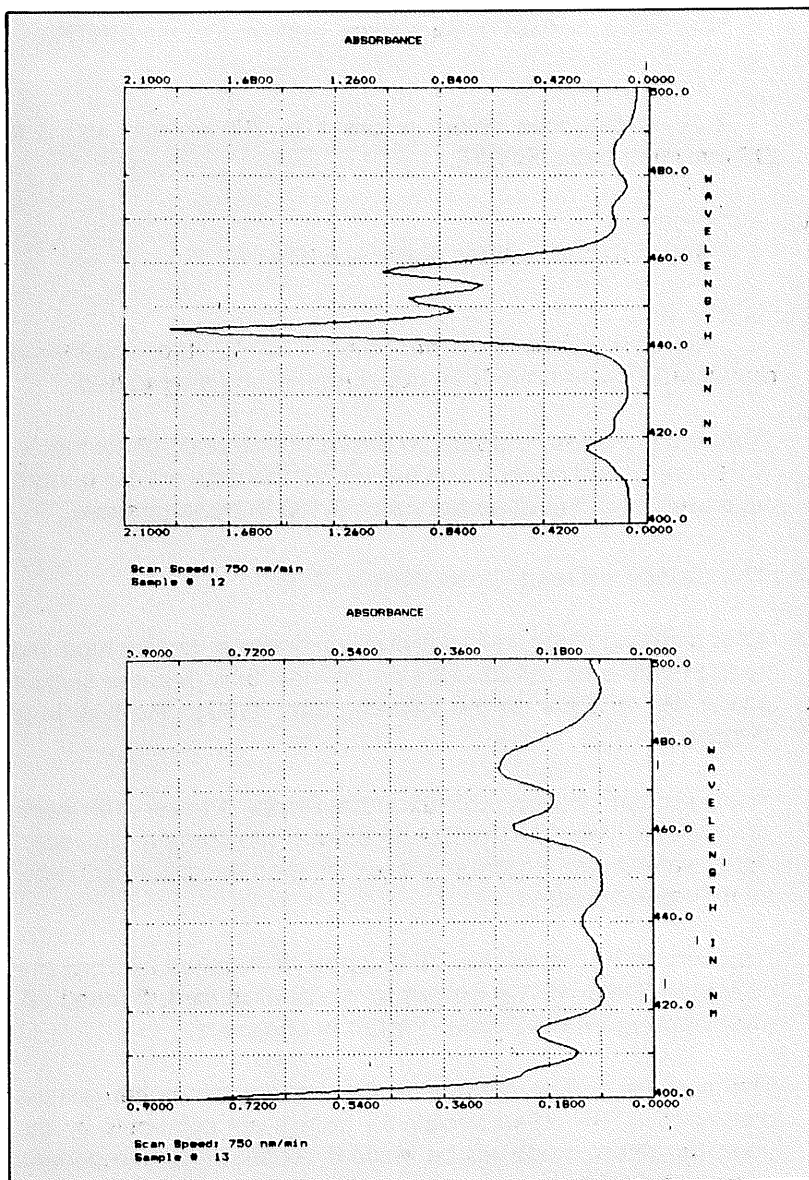

Figure 4. BatchSCN Output Example
13. After pressing [R/S], calibration will be done on the first tube; the background scan will be done on the next tube, and the sample scans will be done on the following tube through the final tube (Figure 4).